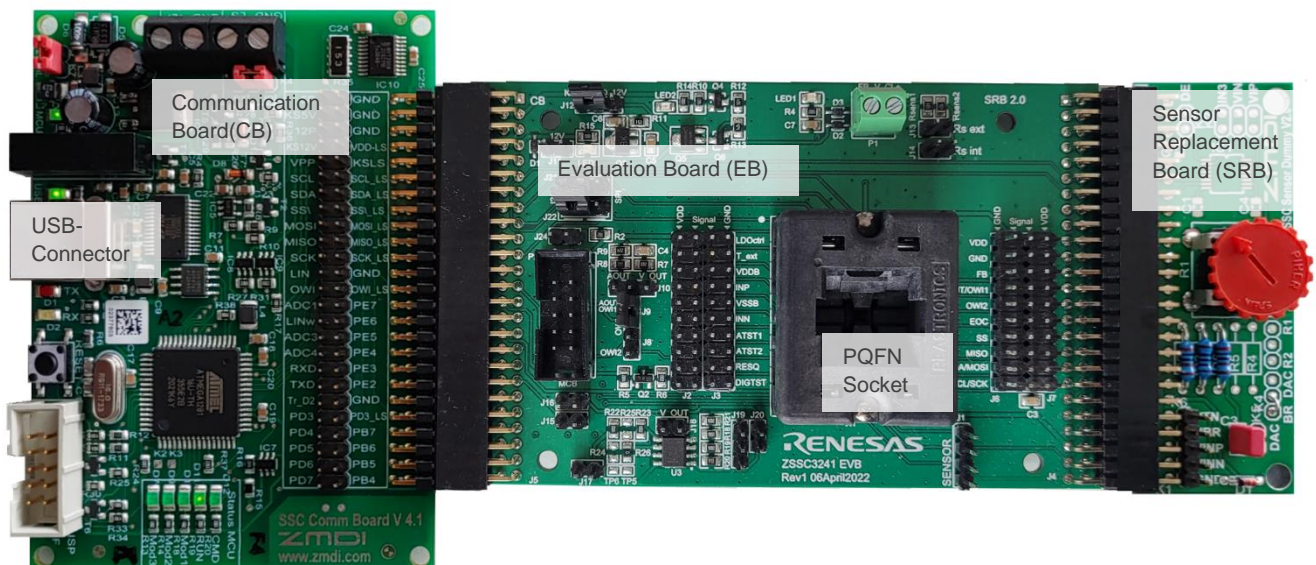

Figure 2. Connected ZSSC3241 Evaluation Kit
2. Connect the kit hardware as shown in Figure 2 to the host PC using the provided USB cable.